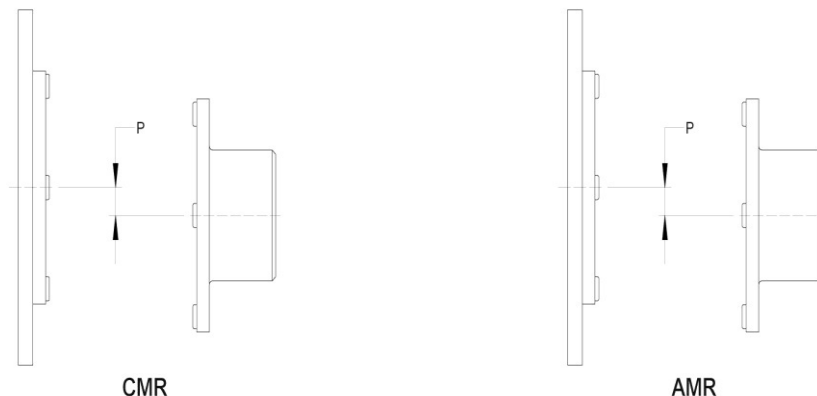

Figure 6 – Parallel Misalignment “P”
- 9.4. The “Parallel Misalignment” value (P) is the offset between the centers of the hubs, as shown in Figure 6.